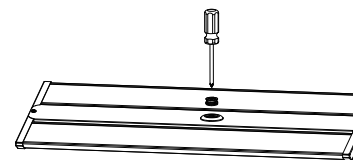

Figure 12
- Step1. Use a screwdriver to remove the 1/2 plug from the sensor; (Figure 12)